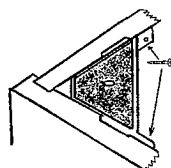

Figure 6
6. Install Corner Braces (Figure 6): place the Corner Braces on each top corner of the cabinet and secure them with 1/2" Corner Brace screws.